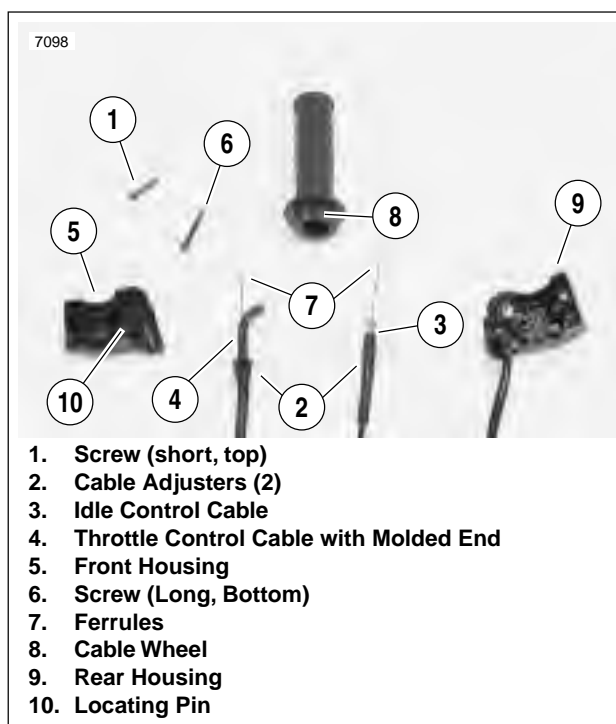

Figure 2-92. Cable Connections
2. See Figure 2-92. Remove two screws (1, 6) on front housing. Separate housings from handlebar.
3. Unhook ferrules (7) from cable wheel (8).
1. See Figure 2-92. Place cable assemblies (3, 4) into housings (5, 9). Throttle control cable (4) has a molded fitting end and is positioned inside the front housing (5). Idle control cable (3) has a smaller fitting end and is positioned inside the rear housing (9).
3. Attach ferrules (7) to cable wheel (8). When properly assembled, notches for ferrules will be at 12 o'clock.
4. Position housings on right handlebar by engaging locating pin (10) on front housing with hole in handlebar. Attach housings with two screws (1, 6), installing longer screw on bottom. Tighten screws to 12-17 **in-lbs** (1-2 Nm).